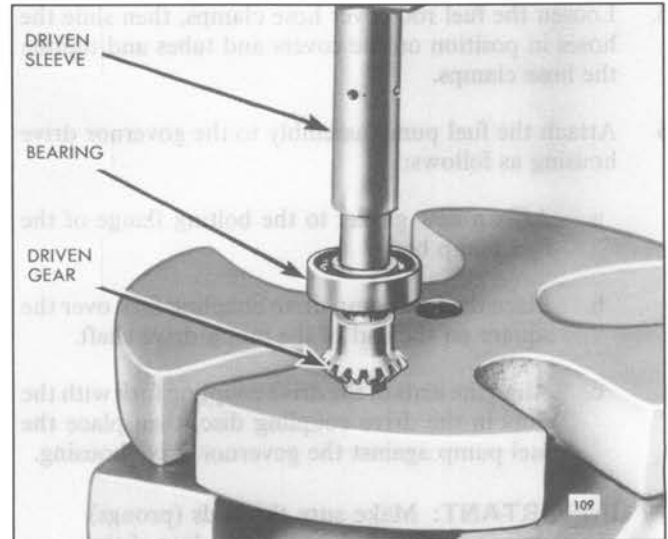

Fig. 9 – Installing Bearing and Driven Sleeve on Driven Gear
- c. Place the driven gear, bearing and sleeve assembly on the bed of an arbor press, with a spacer under the gear (Fig. 9) to support the gear teeth above the bed of the press. Then press the sleeve and bearing tight against the shoulder on the driven gear.